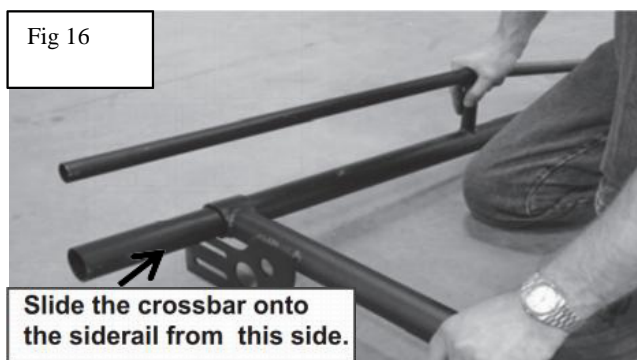

Fig 16
1. Slide the front cross bar onto the front side rail assembly (Fig 16). Repeat for the other side.